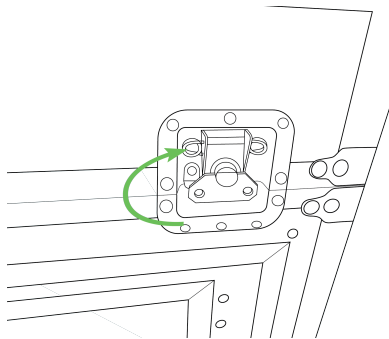

Figure 6-50. Butterfly latches to unlatch top compartment
1. Unlatch the top compartment of the setup box by rotating both butterfly latches to the left (Figure 6-50).